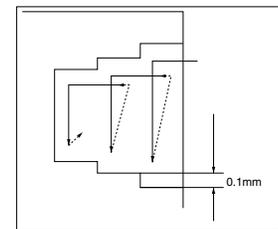

Fig.6
- 1) When widening the groove width, apply the “Step Traversing” as shown in Fig. 6.